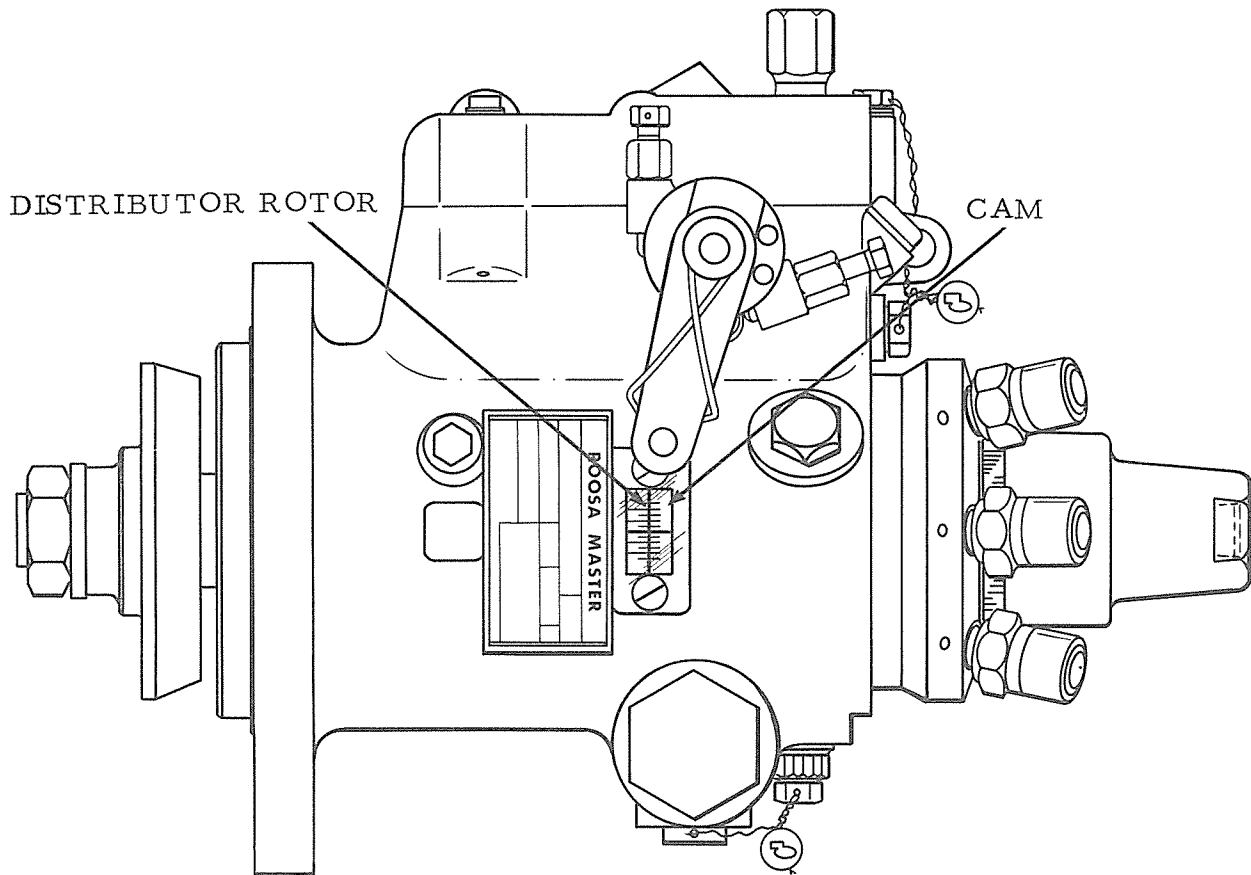

FIG. 15
B. Turn pump drive shaft in the direction of pump rotation until the timing line on the Distributor rotor registers with the line on the cam O. D. (Fig. 15).